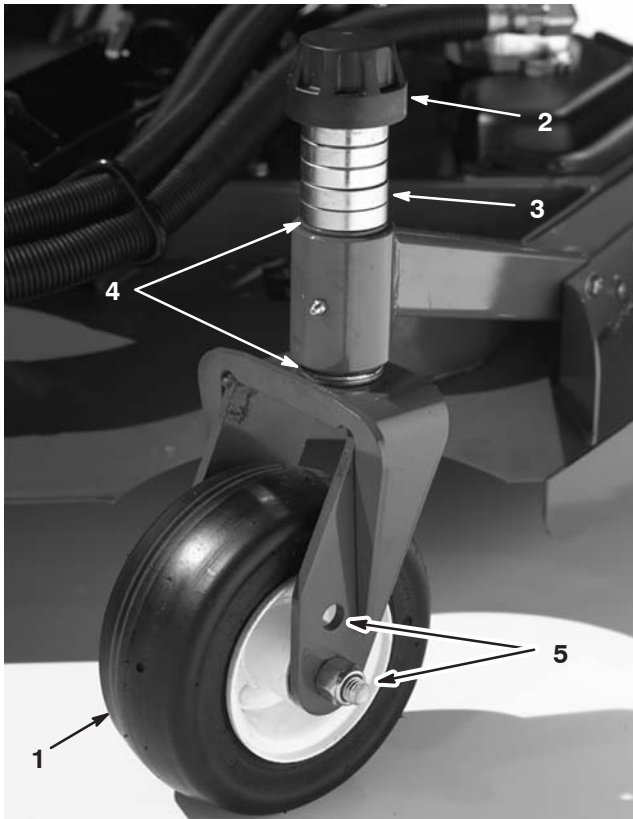

Figure 14
2. Position the castor wheel axles in the same holes in all castor forks (Fig. 14 & 16). Refer to the following chart to determine the correct holes for the setting.
1. Position the castor wheel axles in the same holes in all of the castor forks (Fig. 14 & 16). Refer to the following chart to determine the correct hole for the setting.
2. Remove the tensioning cap from the spindle shaft (Fig. 14) and slide the spindle out of castor arm. Put the two shims (1/8 inch) onto spindle shaft as they were originally installed. These shims are required to achieve a level across the entire width of the cutting units. Slide the appropriate number of 1/2 inch spacers onto the spindle shaft to get the desired height-of-cut; then slide the washer onto the shaft.